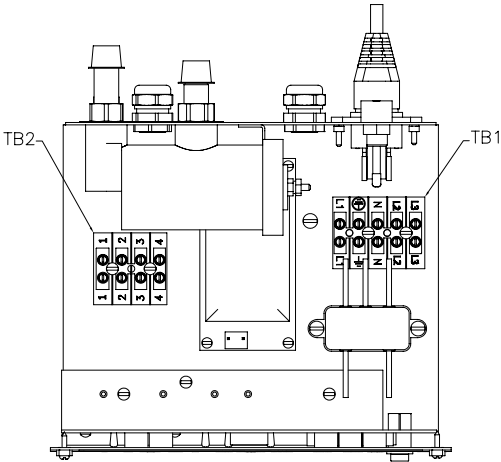
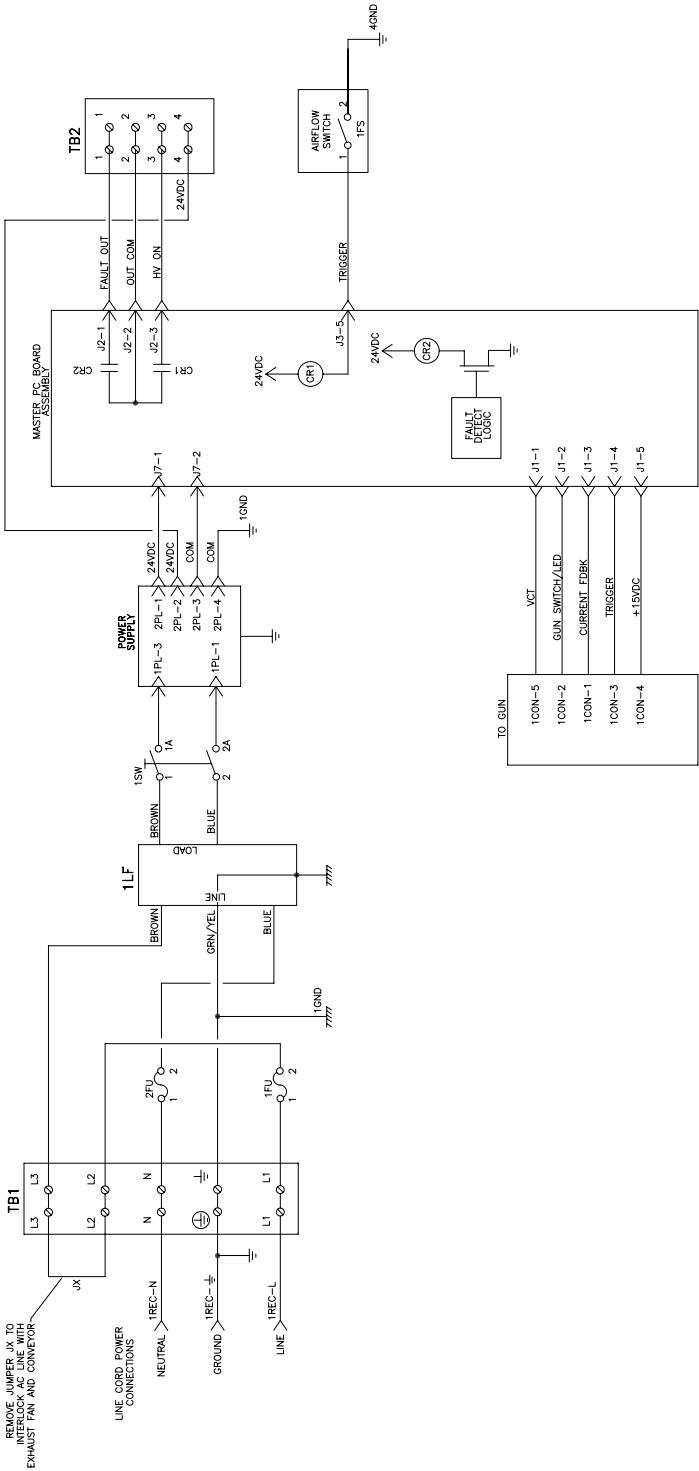

Figure 8: Location of Terminal Blocks TB1 and TB2
Figure 9c: Control Unit Schematic
1. **Ensure the AC line cord is unplugged** and remove the AC inlet receptacle wiring from TB1-N, TB1-L1 and TB1-EARTH GROUND (see Figures 8 and 9a).
A set of relay contacts for high voltage (CR1) and fault (CR2) conditions is provided at TB2-3 and TB2-1 (see Figure 8). One end of these relay contacts are connected together and also connected to a source input terminal at TB2-2 (see Figure 9c). When a source voltage is present at TB2-2 and either the high voltage is on or a fault condition occurs, the source voltage will become available at the output end of the corresponding contact. Maximum contact ratings are as follows: